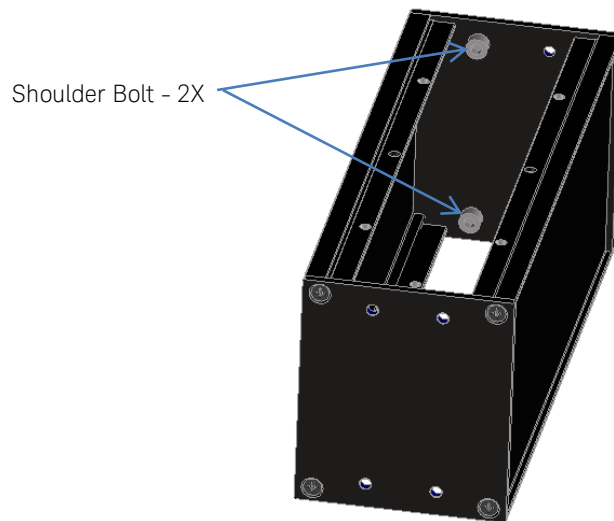

Figure 2: Add two shoulder bolts
4. Add the two shoulder bolts as shown in Figure 2.